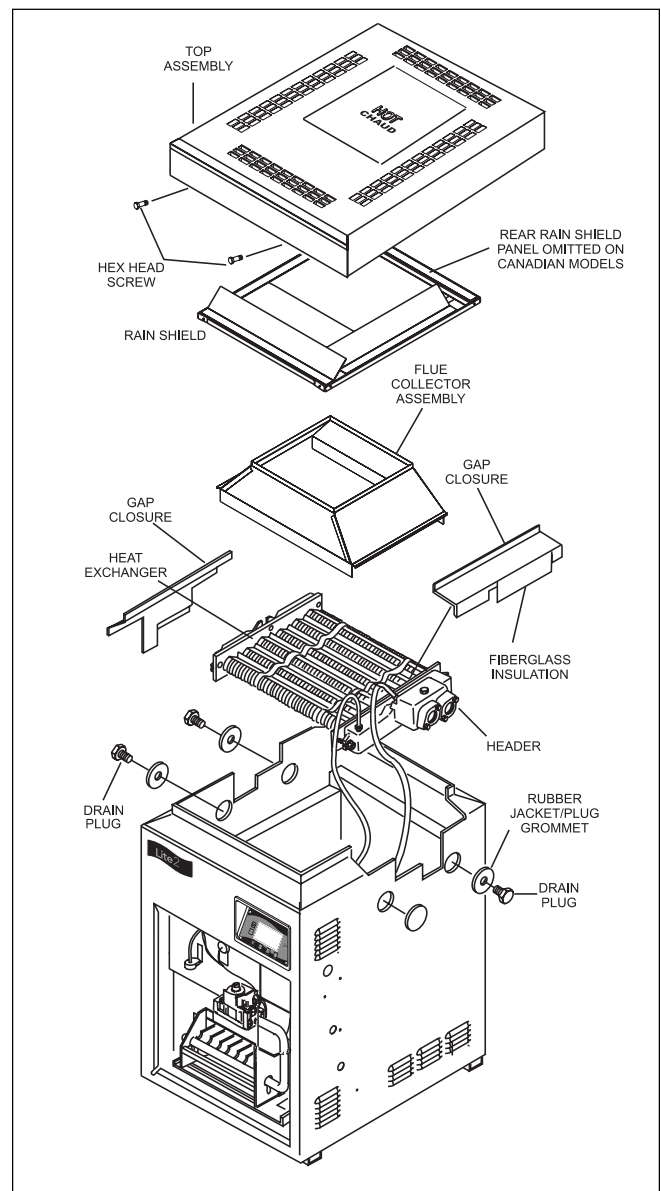

Figure 7. Heat exchanger reversal
2. Remove all 8 hex-head screws fastening the top and lift the top assembly straight up (see Figure 7).
6. Remove the three rubber jacket/plug grommets and drain plugs (see Figure 7). One is located under the water connections on the right side. The other two are on the left side of the heater.